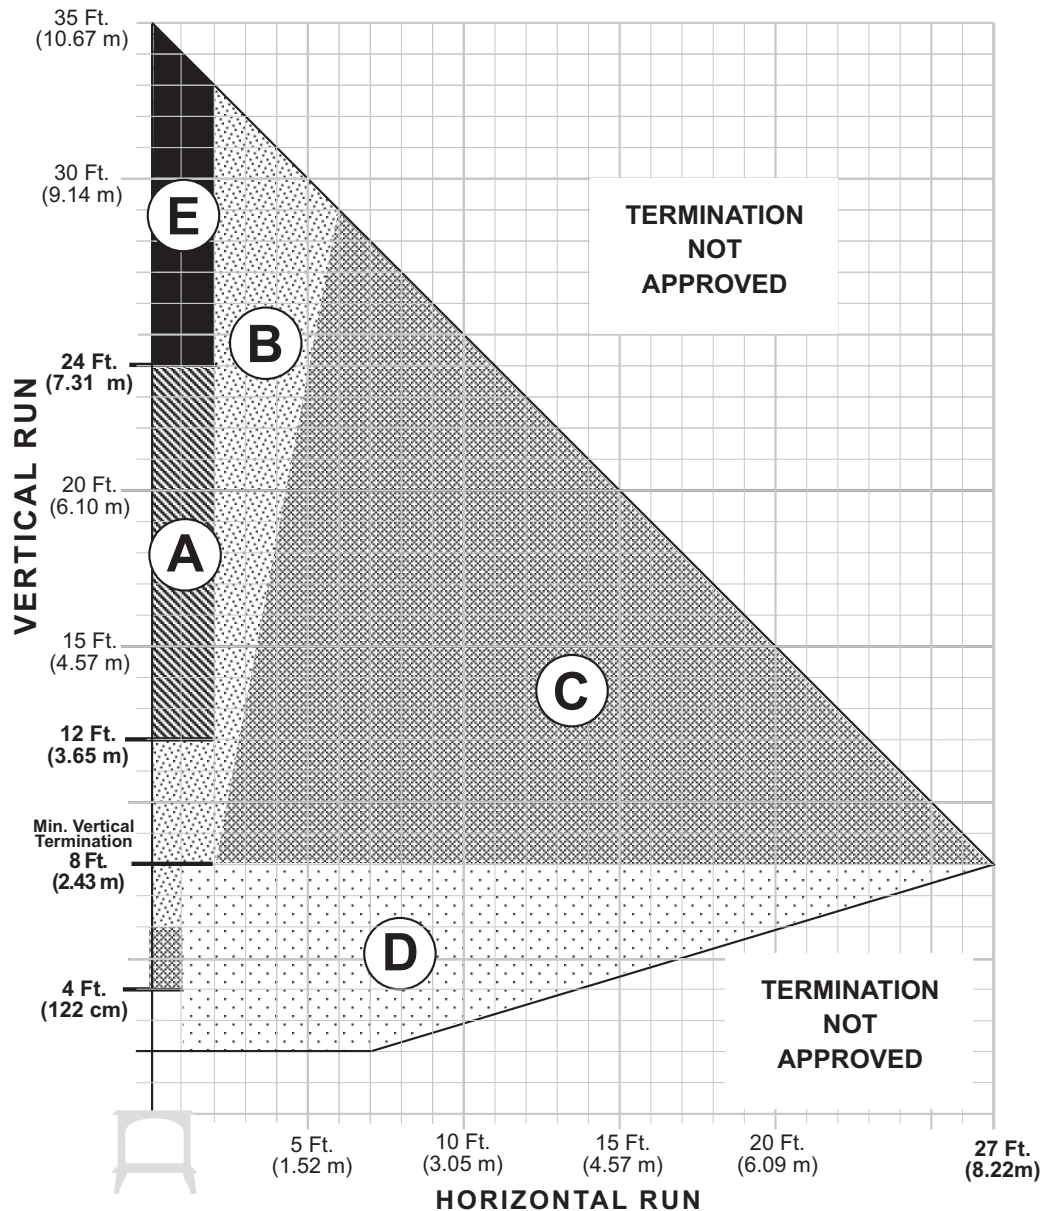

Figure 9. Vent Termination Matrix - NG / LP
The Exhaust Restrictor is an adjustable shutter located at the top right side of the firebox. It is adjusted by moving a pivot pin into one of four positions. It is set in the FULLY OPEN (D) position at the factory. See Fig. 7. The four positions correlate to the termination zones (A,B,C,D) diagramed in figure 9. Use the diagram to determine the setting you should use.
- Any horizontal termination must fall within the shaded portion of the vent window matrix shown in fig. 9. For Snorkel Terminations, see below.